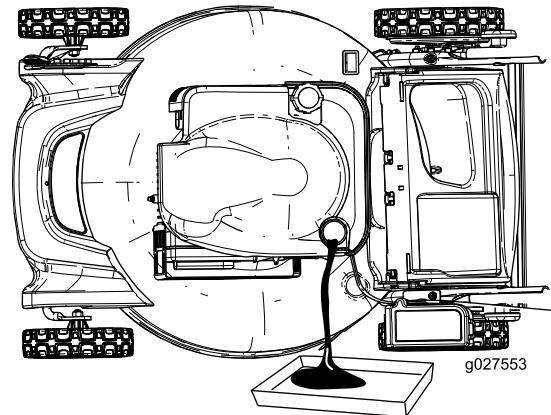

Figure 24
7. Tip the machine onto its side, with the oil-fill tube down, to drain the used oil out through the oil-fill tube into the oil-drain pan (Figure 24).